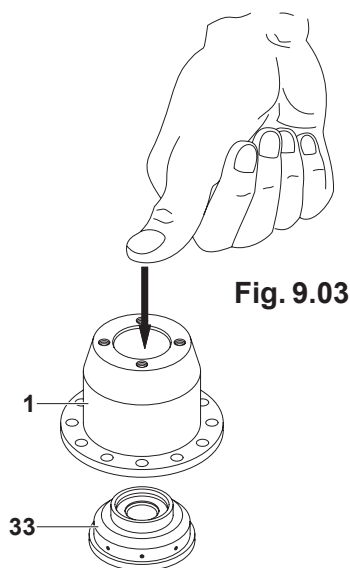

Fig. 9.03
9.2.03) Remove the top casing pos.1 and push the diffuser pos.33 out (Fig.9.03); proceed to the replacement after selecting the desired diffuser from table "A" chapter 8.